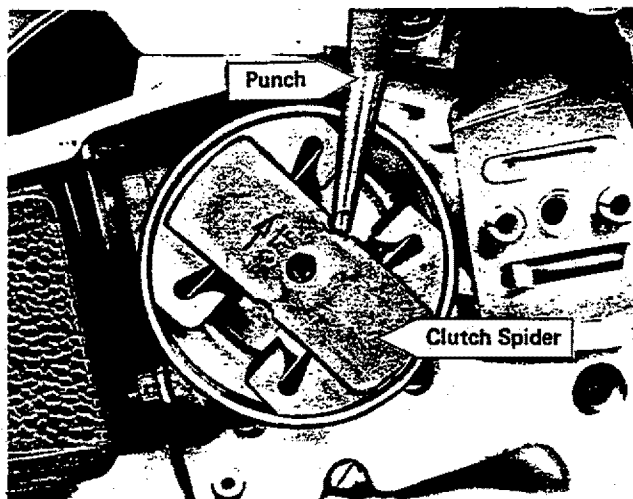

Fig. 12
4. Use a soft, blunt ended punch and hammer to turn the clutch spider off of the crankshaft. Use one of the two notches provided for this purpose and turn the clutch spider clockwise, as the threads are left-hand threads. See Figure 12. Do not pound directly on the ends of the spider, or clutch shoes, to turn it. Use only the notches provided. If the spider does not come loose after a few strokes, take the saw to your Sears Store and let them remove the spider. After the spider has been removed, the clutch drum and sprocket may be removed. All parts should be inspected for wear, especially the sprocket. If it is severely worn, have it replaced. It is the most economical in the long run if the chain and sprocket are replaced at the same time. When reinstalling the clutch drum, apply a coat of oil to the bearing in the clutch drum. Reinstall the spider, counterclockwise. Just a few taps with the hammer and punch are sufficient, as the spider will tighten itself when you start cutting wood with the saw.